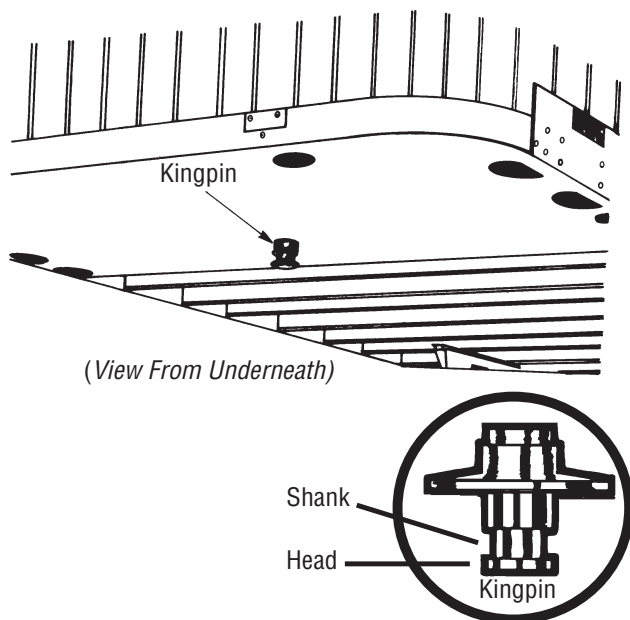

Figure 6-4 Trailer Kingpin
- Make sure the fifth-wheel jaws have closed around the shank of the kingpin. (Figure 6-4)